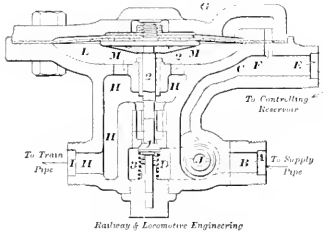

Fig. 1.—VALVE FOR TRIPLE VALVE TESTING DEVICE.
A special valve for use in connection with the yard test of triple valves is shown in Figure 1. It is so designed that, regardless of the length of train, or amount of leakage, the rise of train-pipe pressure
**Operation of Device.** As air from the yard plant or engine enters the valve at *A* (Fig. 1), it is free to pass through port *B* into chamber *D*. Train-pipe pressure can always be maintained in chamber *L* under diaphragm 2 by means of ports *H* and *M*. Air in port *B* is free to pass through small pin hole *J*, thence through port *C*, and out at *E* to the controlling reservoir. Owing to the unchanging volume of the controlling reservoir, a constant predetermined rise of pressure is obtained, and this pressure is always free to reach chamber *G*. When the pressure in this chamber is greater than that in chamber *L*, connected with the train pipe through ports *M* and *H*, diaphragm 2 is